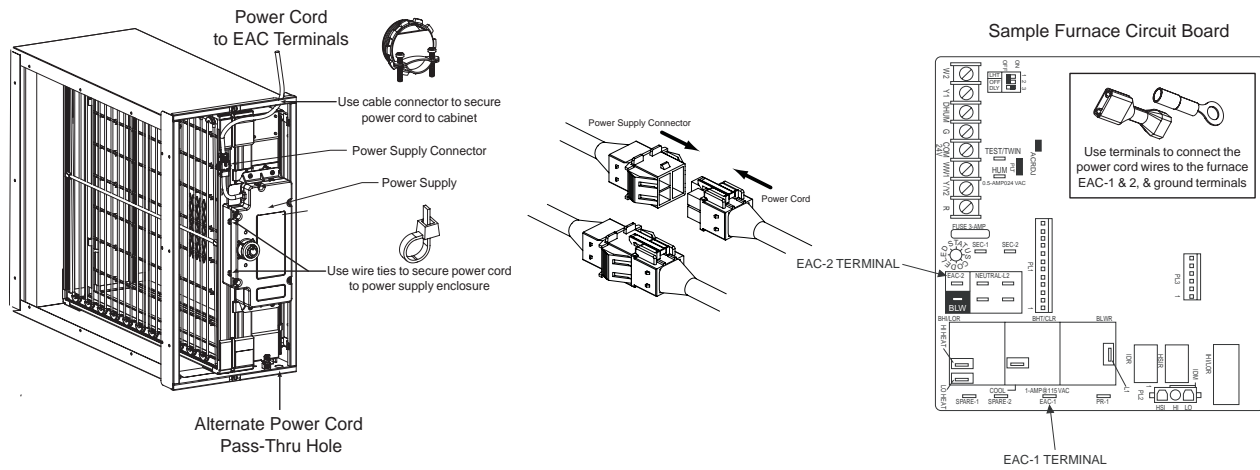

Fig. 7 - Perfect Air™ Purifier Electrical Connections
- c. Connect the power cord to the power supply connector (see Fig. 7).